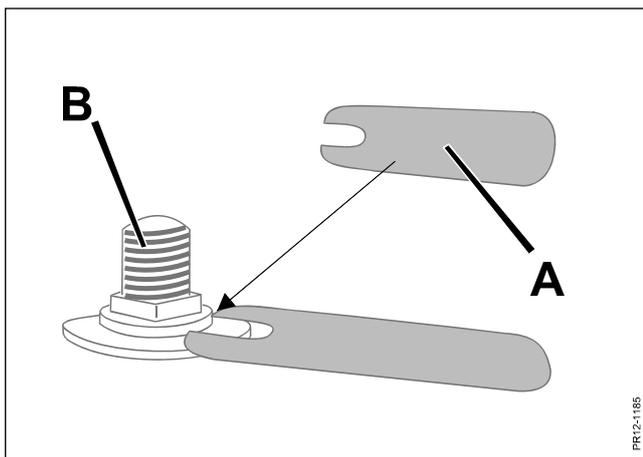

Fig. 6-8
- the diameter is less than 15 mm (see also below at fig. 6-8).
- Fig. 6-8 In connection with replacement of blades check all blade bolts **B** on the discs regularly with the gauge **A** (in the spare parts package).